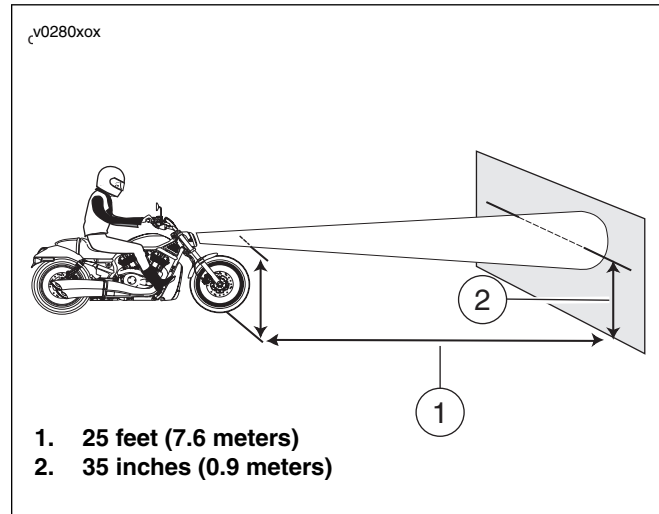

Figure 1-12. Headlamp Alignment (typical)
3. See Figure 1-12. Position motorcycle 7.6 m (25 ft) away from a screen or wall (1). Measure the vertical distance from center of headlamp to floor, and draw a horizontal line (2) on screen or wall at same height above floor.